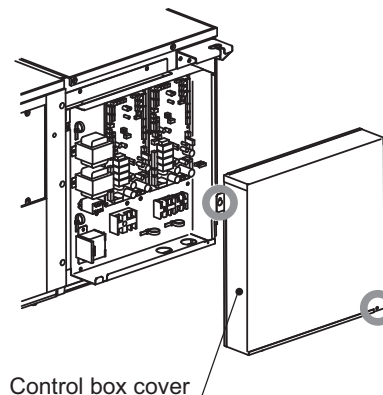

Fig.2
1. To remove the control box cover (Fig.2)